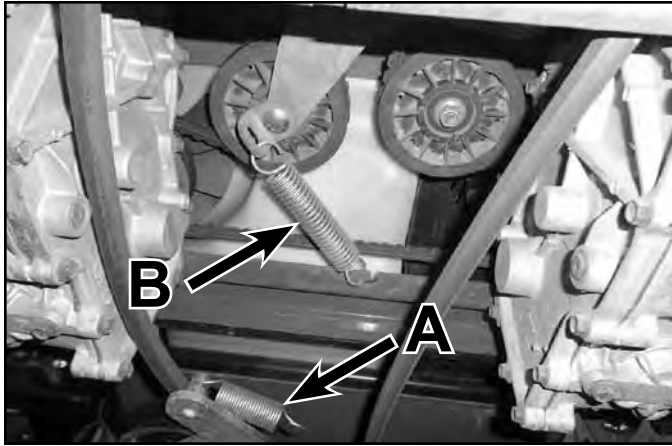

Fig. 071
2. Remove PTO belt tensioner spring (A) from the deck to relieve PTO belt tension as shown in chapter 6 (Fig. 071).
6. Remove the drive belt tensioner spring (B) (Fig. 071).